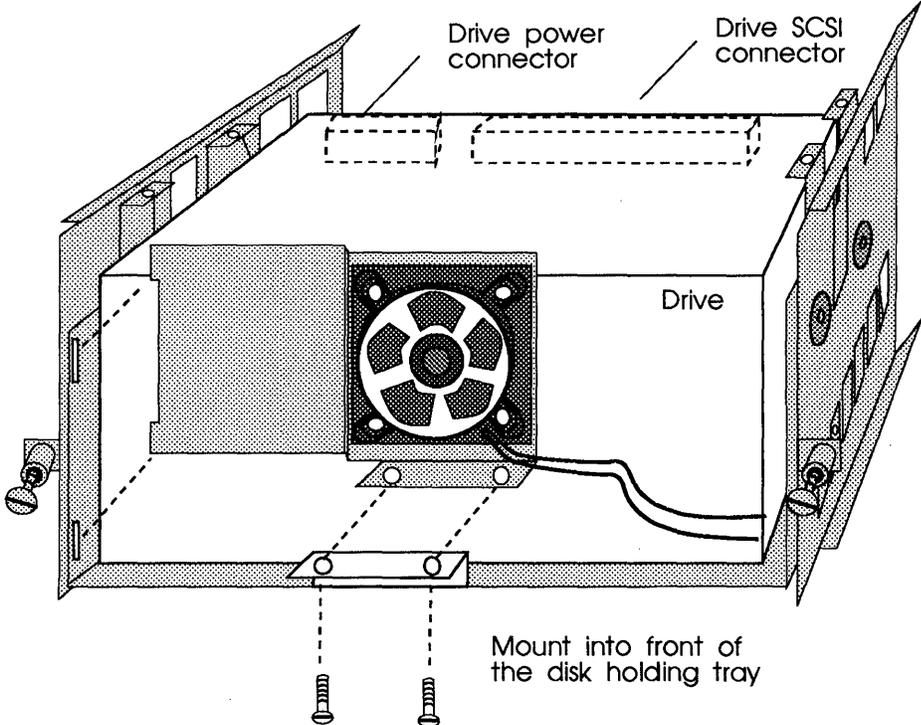

Figure 4-2: CDI-4000-SAE fan bracket installation
- 4 Install fan bracket by aligning the two notches on the left side of the fan bracket into the two slots of the left side of the ISE and the two holes into the bottom of the disk holding tray; put two screws into the fan bracket through the ISE. See Figure 4-2.